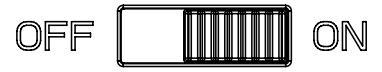
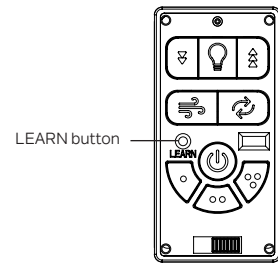

Fig. 9
Fig. 10
Step 2. Slide the **OFF/ON** switch on the face of the transmitter to the "**ON**" position (Fig. 9), then press the **LEARN** button on the transmitter. (Fig. 10) The fan will change to medium speed and the light kit (if applicable) will toggle (if the light kit was previously on, it will switch to off. If the light kit was previously off, it will switch to on). This confirms that the pairing process is complete.